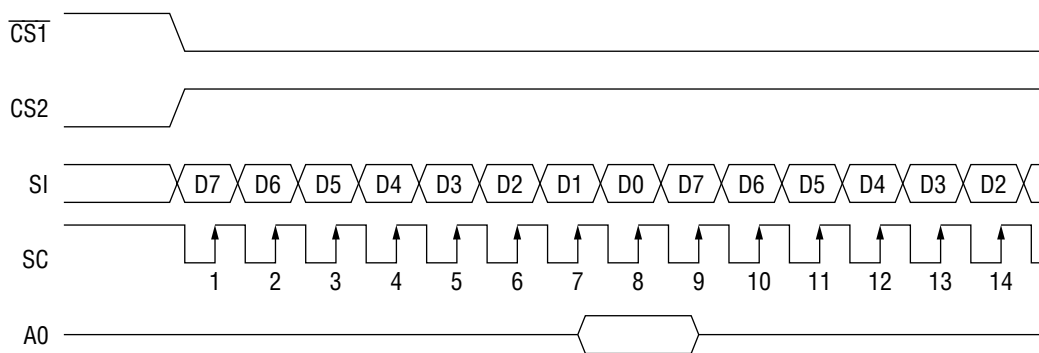

Figure 1
When the serial interface is selected ($P/\overline{S} = "L"$), the serial data input (SI) and the serial clock input (SCL) can be accepted if the chip is in the active state ($\overline{CS1} = "L"$ and $CS2 = "H"$). The serial interface consists of an 8-bit shift register and a 3-bit counter. The serial data is read in from the serial data input pin in the sequence D7, D6, ... , D0 at the rising edge of the serial clock input, and is converted into parallel data at the rising edge of the 8th serial clock pulse and processed further. The identification of whether the serial data is display data or command is judged based on the A0 input, and the data is treated as display data when A0 is "H" and as command when A0 is "L". The A0 input is read in and identified at the rising edge of the $(8 \times n)$ th serial clock pulse after the chip has become active. Fig. 1 shows the signal chart of the serial interface. (When the chip is not active, the shift register and the counter are reset to their initial states. No data read out is possible in the case of the serial interface. It is necessary to take sufficient care about wiring termination reflection and external noise in the case of the SCL signal. We recommend verification of operation in an actual unit.)